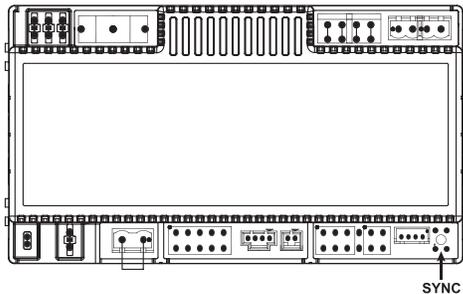

FIG 1: IFC BOARD
5. Wait five (5) minutes to clear out any gas. Then smell for gas, including near the floor. If you smell gas, **STOP!** Follow "B" in the safety information above. If you don't smell gas, go to the next step.
6. You must now synchronize the wall mount / remote with the IFC board (for 1st time use) by pressing the SYNC button **FIG 1** followed by pressing the "ON" button on the wall mount / remote.
1. Press the "OFF" button on the wall mount / remote. (**FIG 1**)